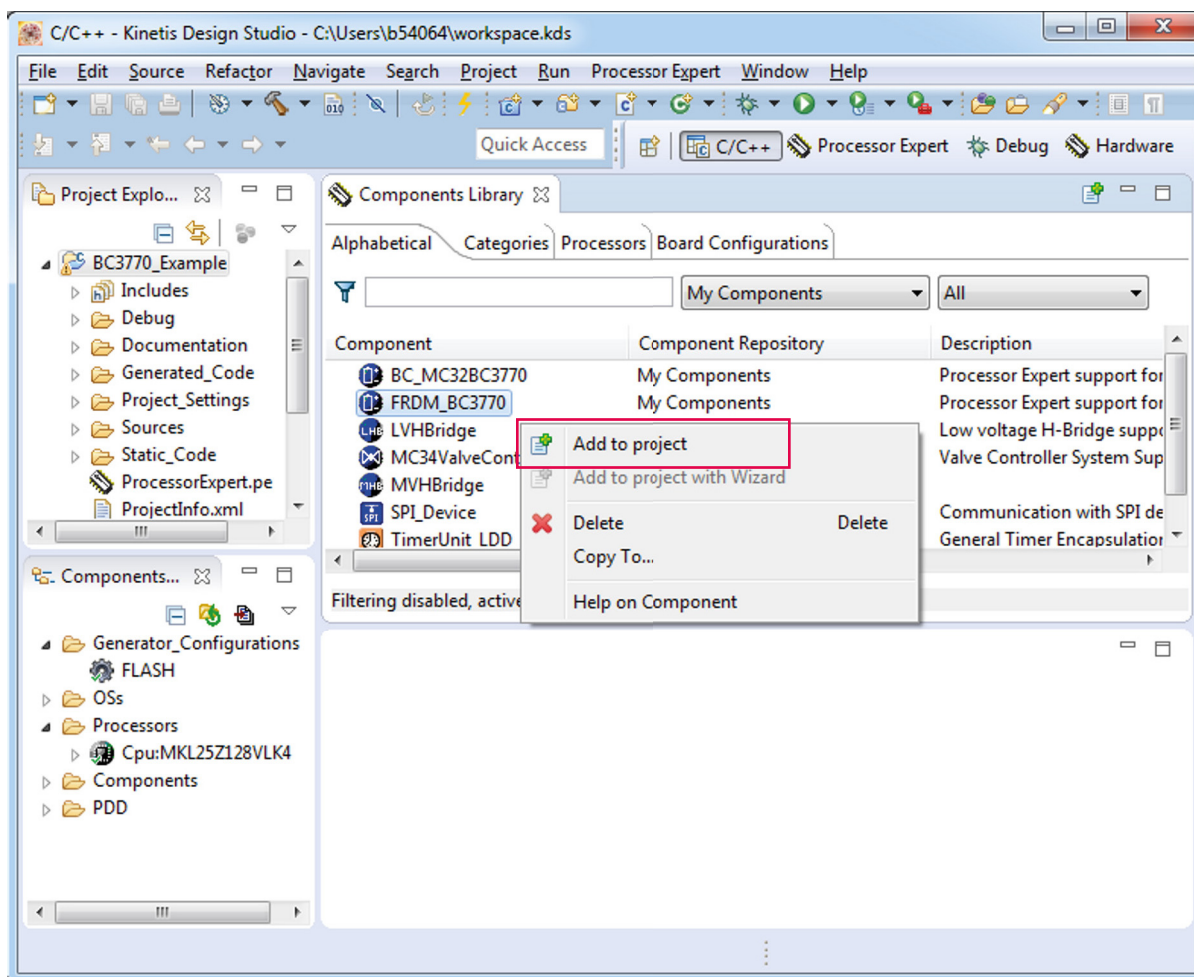

Figure 15. Add the BC3770 component to the project
1. Find FRDM_BC3770 and BC_MC32BC3770 in the **Components Library** and add it into the project by double clicking, then dragging and dropping, or by right-clicking the mouse button and selecting the **Add to Project** option (see Figure 15).